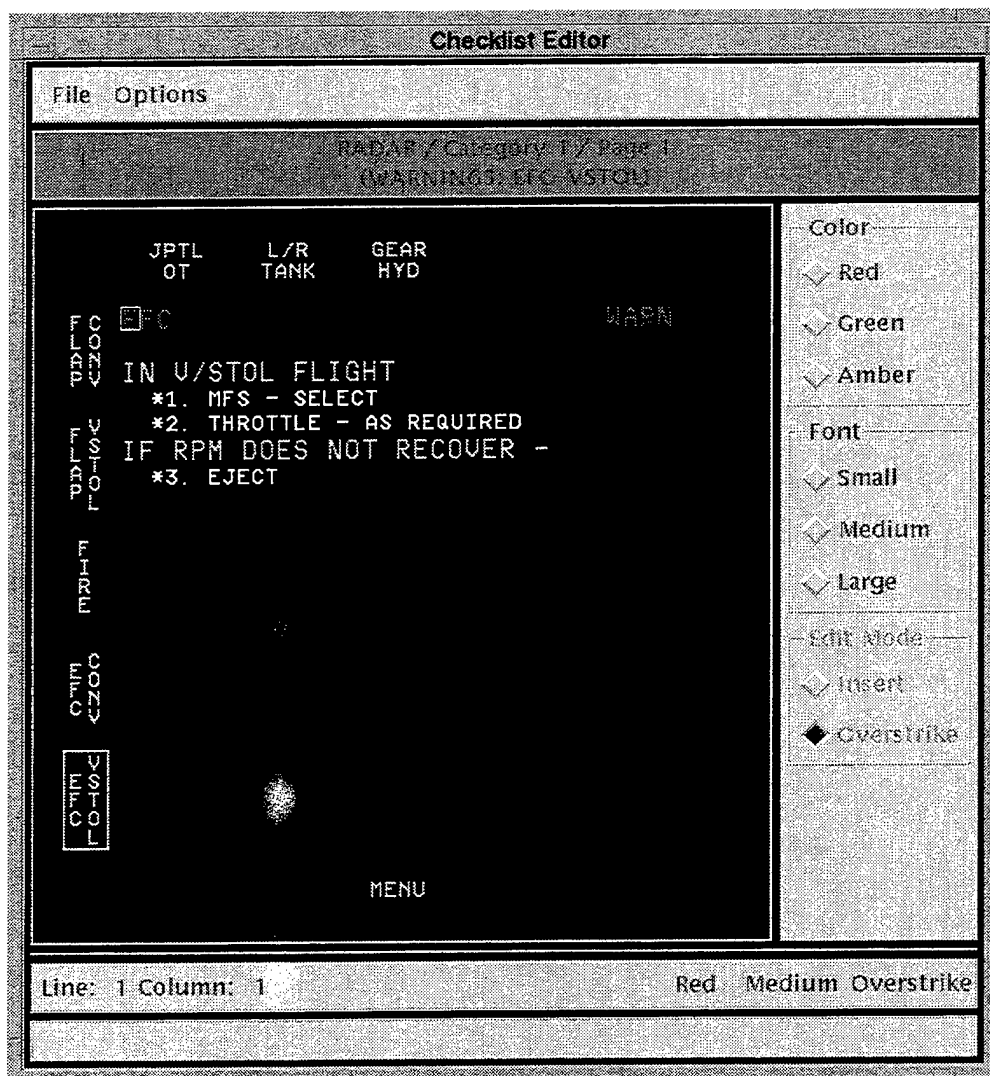

Fig. 43 — Sample checklist in editor window
- The selected checklist will be displayed in the **Checklist Editor Window** (Fig. 43).